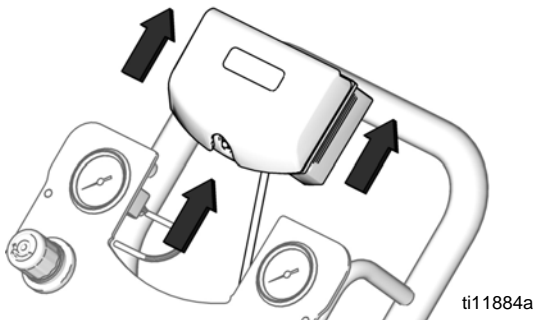

FIG. 7. Remove DataTrak
- Remove DataTrak module from bracket. See FIG. 7. Take module and attached cable to a non-hazardous location.